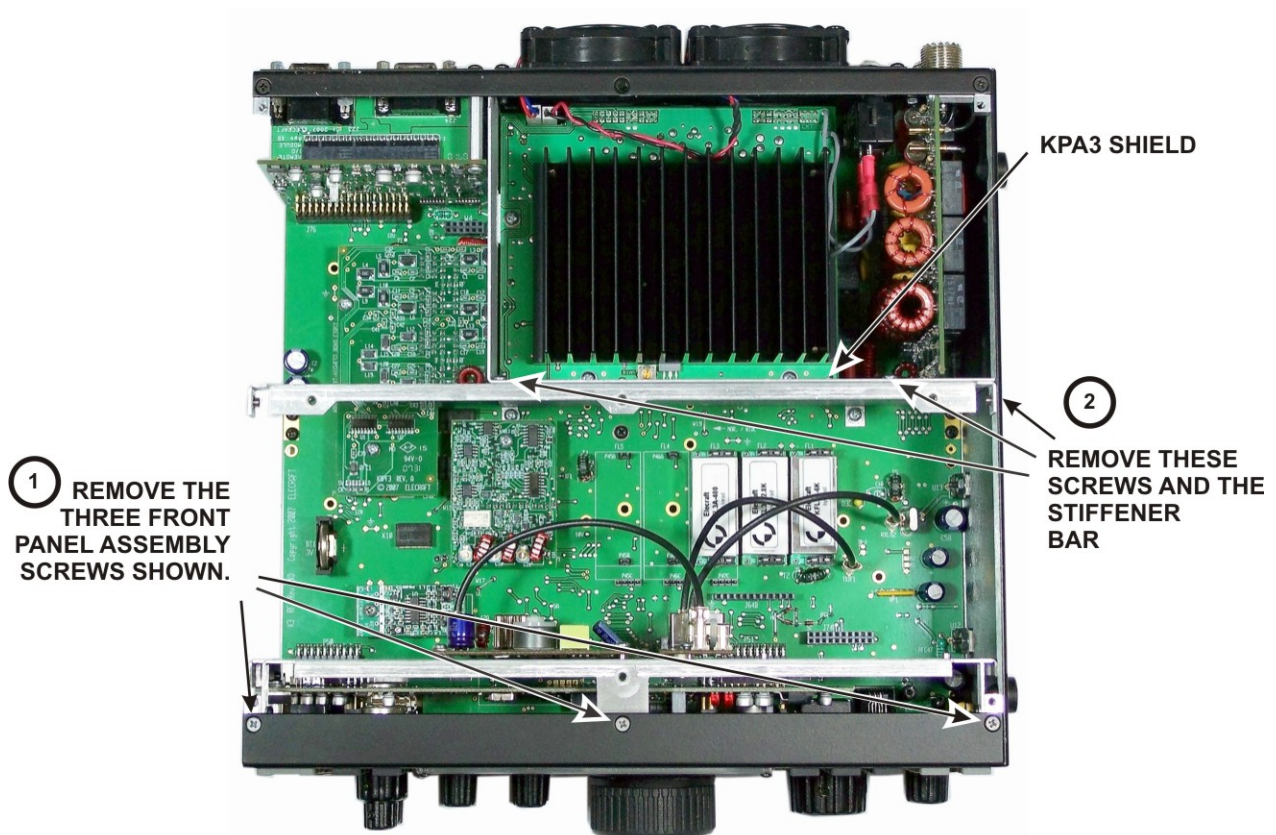

Figure 4. Removing Front Panel Mounting Screws and Stiffener Bar.
- Remove the three screws securing the top of the front panel assembly as shown in Figure 4.
- Remove the three screws securing the top of the front panel assembly and the stiffener bar as shown in Figure 4. The screws attaching the end to the side panel has a captive nut. The two screws attaching the stiffener bar to the KPA3 shield may have captive nuts mounted on the stiffener or they may use separate nuts and lock washers.
**⚠ CAUTION:** Before continuing on with the next step, be sure you have removed the three top Front Panel Assembly screws shown in Figure 4. You may bend and damage the front panel or shield assemblies if the screws are not removed!
- Fasten the top of the front panel assembly with three 4-40 3/16" (4.8 mm) black flat head screws (see Figure 4).
- Set the K3 on its bottom feet. If you removed the stiffener bar to avoid damaging it (Figure 4), replace it now using two 4-40 3/16" (4.8 mm) black flat head screws. Be sure to orient it as shown in the figure.